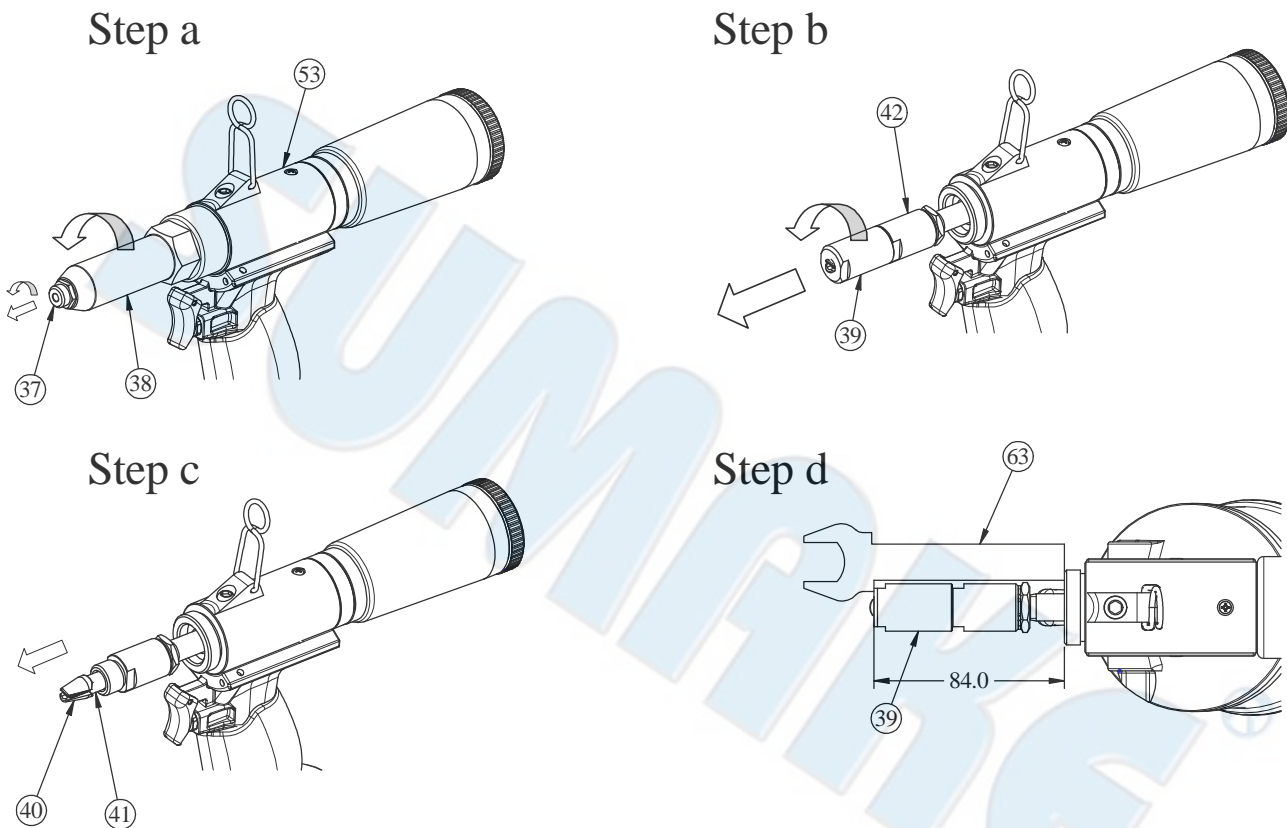

Fig. 2 Detail illustration of change the nosepiece, jaw, and jaw pusher.
FIG 2 DETAIL ILLUSTRATION OF CHANGE THE NOSEPIECE, JAW, AND JAW PUSHER. ....	4
- a. Loosen and remove the nosepiece (Index 37 in Figs. 2 & 5), then set up the desired nosepiece (Index 37~37-2 in Figs. 2 & 5) on frame head as shown in Fig. 2;
- b. Loosen and remove the frame head (Index 38 in Figs. 2 & 5) from the oil cylinder body (Index 53 in Figs. 2 & 5) as shown in Fig. 2;
- c. Loosen and remove the jaw housing (Index 39 in Figs. 2 & 5) from the jaw housing coupler (Index 42 in Figs. 2 & 5) as shown in Fig. 2;
- d. Take out the jaw and jaw pusher (Index 40, 41, in Figs. 2 & 5), then change on the matching the jaw and jaw pusher.
- e. Then assemble the jaw housing and adjust it's length to match the spanner gauge (Index 63 in Figs. 2 & 5) as shown in Fig. 2;